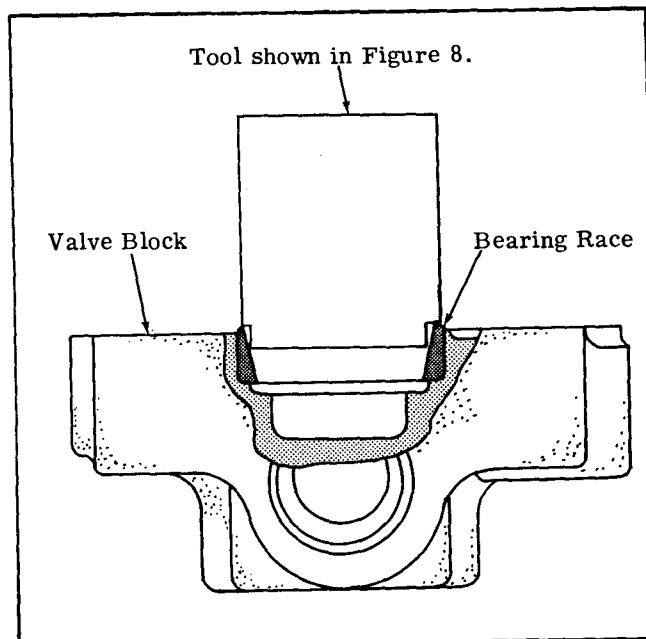

Figure 15. Valve Block Race Installation Procedure.
If the bearing race was removed from valve block (2), install a new bearing race as shown in Figure 15. Use tool shown in Figure 8.